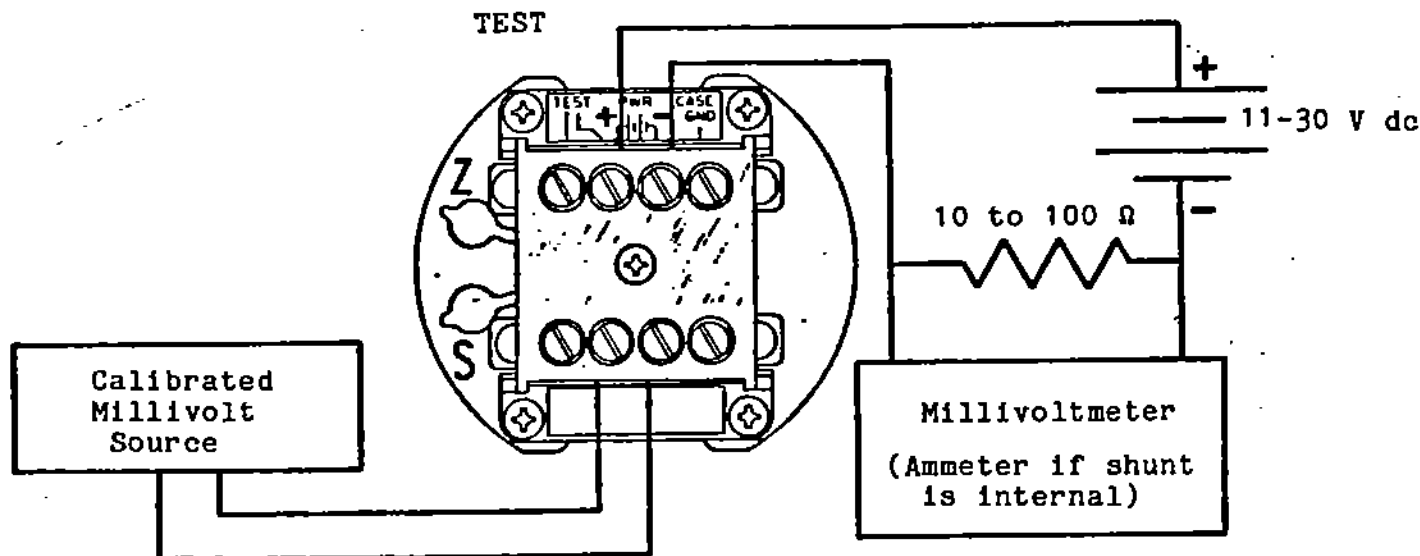

Figure 5-1 Calibration Hookup
6. Refer to Figure 5-1 and connect the transmitter to the power supply, millivolt source, current shunt, and millivoltmeter. Greater calibration stability can be obtained if the electronic assembly is installed in the case.
10. Set the millivolt calibration source to HI-IN millivolts and note the output current (generally this will not be 20 mA). This current level is designated INITIAL TOP (IT).
11. Calculate TOP CORRECT (TC), the corrected output current, with the following equation (generally this will also not equal 20 mA).